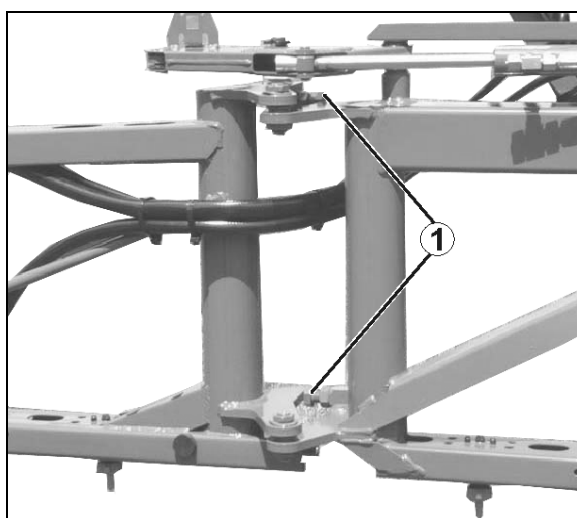

Fig. 172
- Pay attention to the respective installation positions of the valves on the suction and pressure sides before removing the valve groups (Fig. 172/5).
- When reassembling, ensure that the valve guide (Fig. 172/9) is not damaged. Damage may cause the valves to jam.
- Always tighten the nuts (Fig. 172/1,2) in a crosswise fashion using the specified torque. Improper tightening of the screws causes warping, which results in leaks.
2. Release the screws (Fig. 172/1) and remove the tensioning clamp (Fig. 172/2).
3. Remove the suction and pressure ports (Fig. 172/3 and Fig. 172/4).
4. Remove the valve groups (Fig. 172/5).
5. Check the valve seat (Fig. 172/6), valve (Fig. 172/7), valve spring (Fig. 172/8) and valve guide (Fig. 172/9) for damage or wear.
6. Remove the O-ring (Fig. 172/10).
8. After testing and cleaning, fit the valve groups (Fig. 172/5).
9. Fit new O-rings (Fig. 172/10).
10. Mount the suction (Fig. 172/3) and pressure ports (Fig. 172/4) on the pump housing and fit the tensioning clamp (Fig. 172/2).
11. Tighten the screws (Fig. 172/1) crosswise to **11 Nm** torque